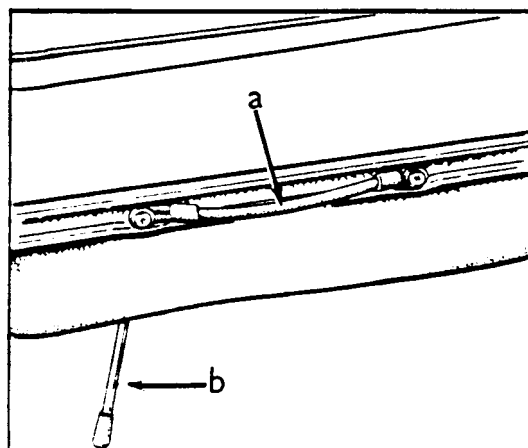

Figure 18
5. While lifting the machine up with the machine lift handle (a), lower the support leg and position like a kickstand (b). See Figure 18